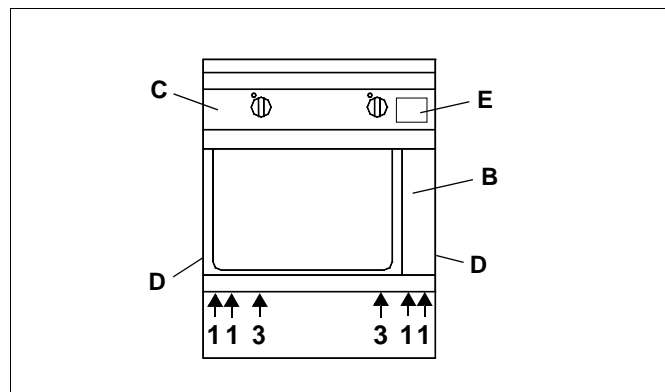

Fig.5 General view
The specification plate (E) is located in each case inside and outside on the right of the operator panel (C) (Page 5 Fig. 5).